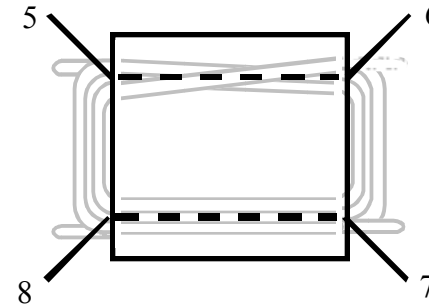

Figure 6-30
- Use two 2" (5 cm) lengths of bare hookup wire to form the 5-6 and 7-8 windings on T4 (Figure 6-30). (These are more accurately described as *links*, each being just a single turn.) Route the bare wires through the core first, then bend them down and insert them into their numbered holes and solder. Do not solder yet.